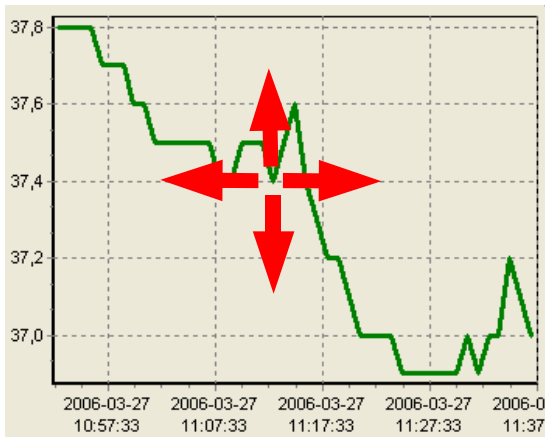

Figure 4.9. Moving the graph
- moving the graph** - the graph can be moved to the left/right (earlier/later time period, correspondingly) or to the down/up (lower/higher measurements range, correspondingly) . In order to do this, right-click on the graph and drag the pointer in desired direction (Figure 4.9).